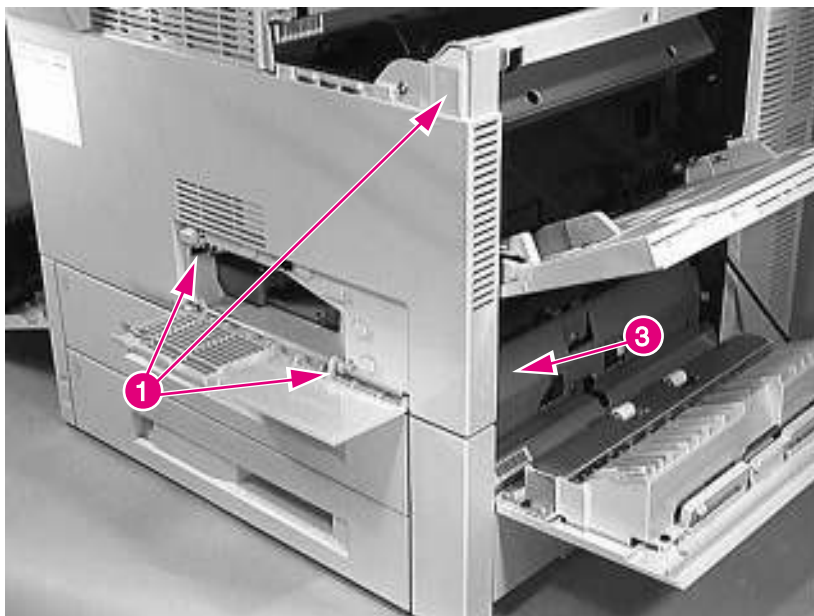

Figure 6-7 **Front Cover (1 of 2)**
- 2 Open the front access door, and remove 3 screws (figure 6-7, callout 1).
- 4** Carefully pull the bottom of the cover away from the chassis while moving it to the right to release the retaining tab (figure 6-7, callout 3).
- Front Cover (see figure 6-7 on page 274)